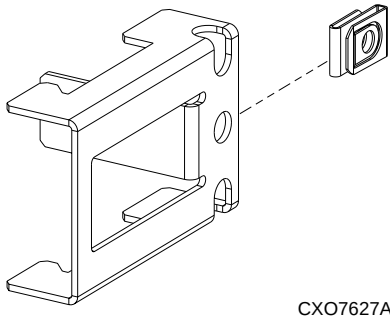

Figure 3: U-Nut installation on side flange bracket
2. Install a U-nut on each side flange bracket (see Figure 3).